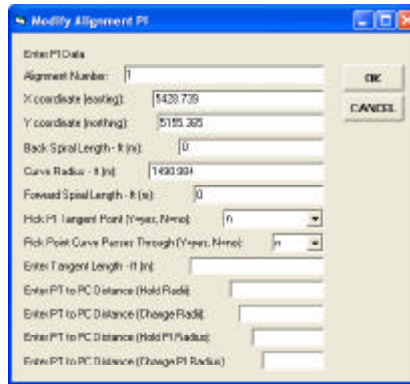

Figure 10
- Enter the appropriate values for the various PI parameters shown in Figure 10, click at the:
As can be seen from Figure 10, the user has a great deal of control over how the PI can be modified. Begin-
- 4a. If the n option is selected under data lines 7 or 8, the multi-input dialog box of Figure 10 is re-displayed and Step 3 is repeated.